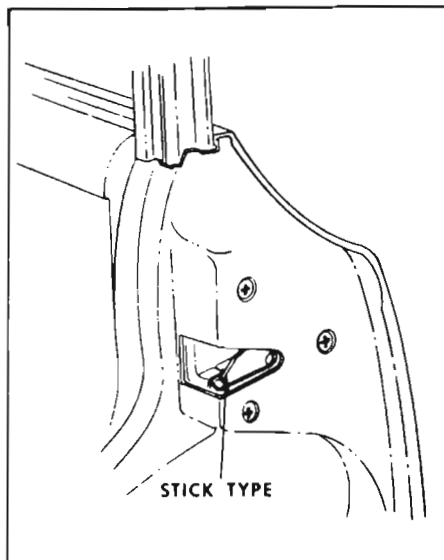

Figure 1-16—Door Lock Fork Bolt Lubrication
5. Door Lock Fork Bolt - Wipe off dirt and apply a thin coat of stick type lubricant to contact point as shown in Figure 1-16.